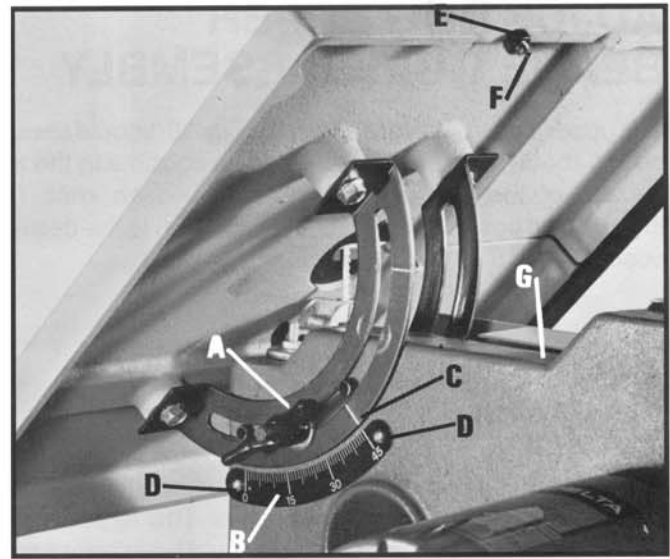
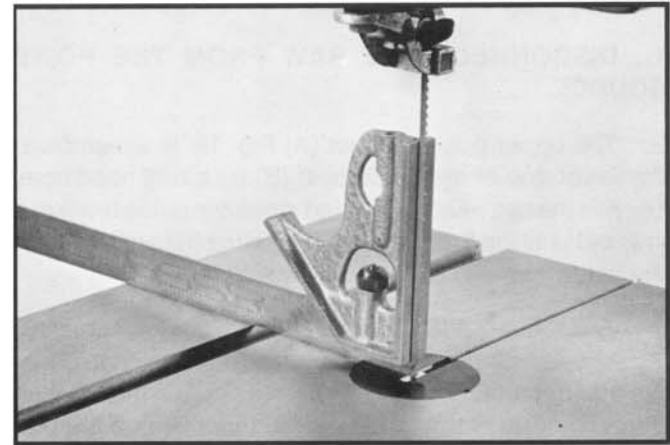

Fig. 21
Fig. 22
The table can be tilted 45 degrees to the right and approximately 3 degrees to the left. To tilt the table, loosen large wing nut (A) Fig. 21, and tilt the table to the desired position on scale (B). Tighten large wing nut (A) Fig. 21.
1. Loosen large wing nut (A) Fig. 21. Position the table so that line (C) points to the "0" degree mark on scale (B) and tighten large wing nut (A).
2. Place a square on the table and against the saw blade, as shown in Fig. 22. Check to see if the table is at 90 degrees to the saw blade. If it is not, loosen large wing nut (A) Fig. 21, and move the table until you are certain the table is at 90 degrees to the blade. Tighten large wing nut (A).
3. Loosen two screws (D) Fig. 21, and adjust scale (B) so that line (C) points to the "0" degree mark.
4. Loosen locknut (E) Fig. 21, and turn the stop screw (F) in or out so that it contacts the frame casting when the table is at 90 degrees to the saw blade. Hold the stop screw (F) at this position and tighten locknut (E) Fig. 21.
5. If you desire to tilt the table to the left, the stop screw (F) Fig. 21, and locknut (E) must be removed.